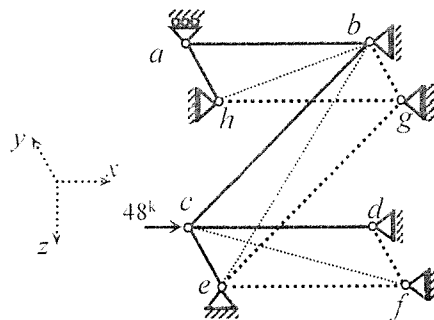

Fig.4
4. Ignore zero-force members of the space truss  $abcdefgh$  shown in Fig.4 and apply boundary conditions to formulate stiffness matrix and load vector. A force  $X_c = 48 \text{ k}$  is applied on joint  $c$  in  $x$  direction. Joint  $a$  is restrained in  $z$  direction by a roller support.